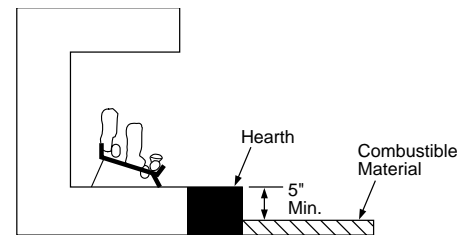

Figure 9 - Minimum Fireplace Clearances Above Combustible Flooring
- B. If combustible materials are less than 14" from the fireplace, you must install appliance at least 5" above the combustible flooring (see Figure 9).